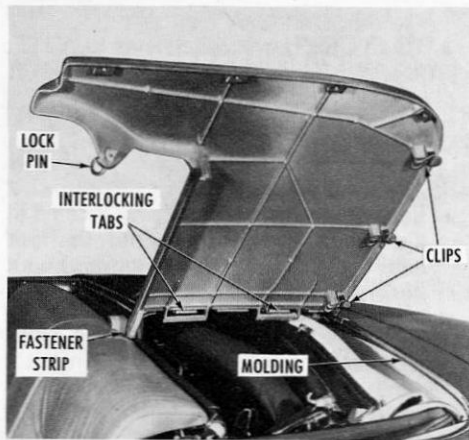

FIG. 2-24: JOINING BOOT LOCK TABS
- Hold left boot panel at the angle shown in Fig. 2-24 and engage the interlocking tabs of both panels. Lower panel until its clips are below molding and move it rearward to engage clips. Position left front portion of panel and fasten lock pin.